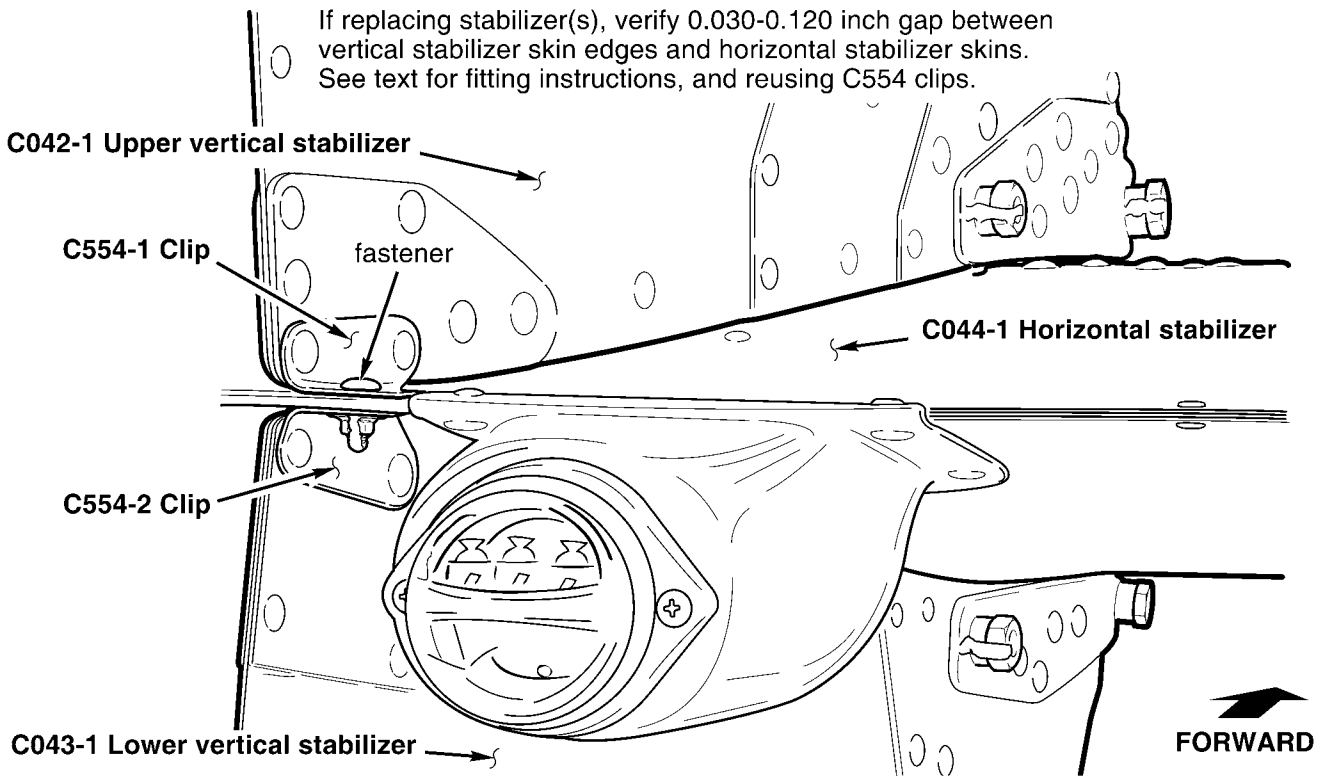

FIGURE 4-5 EMPENNAGE - TAILCONE CASTING
4. Refer to Figure 4-5. Support C004-2 empennage assembly, remove two bolts and associated hardware securing empennage to tailcone casting, and remove empennage.
1. Refer to Figure 4-5. Position C004-2 empennage assembly on tailcone casting. Install two bolts and associated hardware securing empennage to tailcone casting; select bolt length to meet torque requirements per Section 1.300. Standard torque hardware per Section 1.320, and torque stripe per Figure 2-1.
1. Refer to Figure 4-5. Remove fastener securing C554 clips to C044-1 horizontal stabilizer trailing edge.
1. Refer to Figure 4-5. Position C042-1 upper vertical stabilizer on C044-1 horizontal stabilizer. Verify 0.030-0.120 inch gap between C042-1 stabilizer skin edges and horizontal stabilizer skins. File C042-1 stabilizer skin edge(s) as required.
3. Refer to Figure 4-5. Remove fastener securing C554 clips to C044-1 horizontal stabilizer trailing edge.
1. Refer to Figure 4-5. Position C043-1 lower vertical stabilizer on C044-1 horizontal stabilizer. Verify 0.030-0.120 inch gap between C043-1 stabilizer skin edges and horizontal stabilizer skins. File C043-1 stabilizer skin edge(s) as required.
4. Refer to Figure 4-5. Remove two bolts and associated hardware securing horizontal stabilizer to tailcone casting, and remove horizontal stabilizer.
1. Refer to Figure 4-5. Position C044-1 horizontal stabilizer on tailcone casting. Install two bolts and associated hardware securing horizontal stabilizer to tailcone casting; select bolt length to meet torque requirements per Section 1.300. Standard torque hardware per Section 1.320, and torque stripe per Figure 2-1.